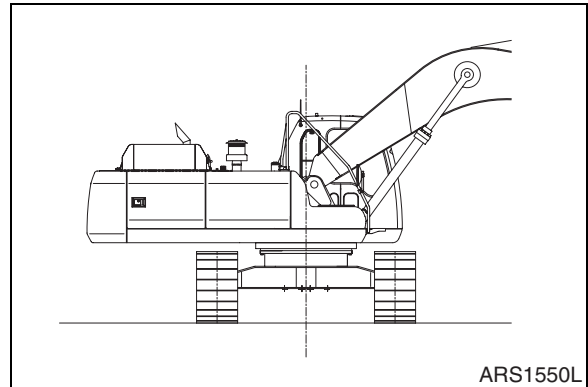

Figure 3
2. Park on firm and level ground and swing turntable to approximately a 90° with respect to tracks. See Figure 3.